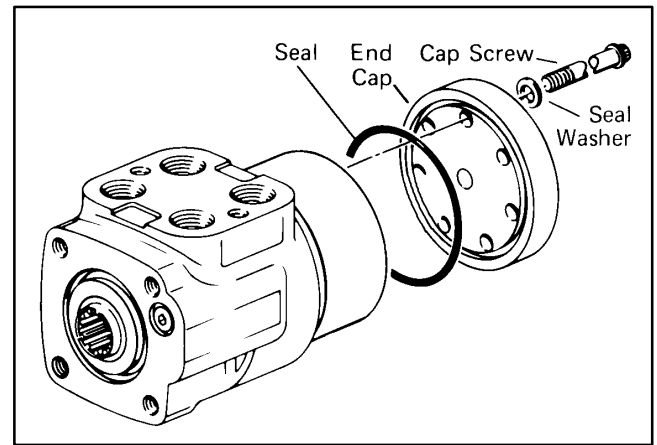

Figure 48
23. Install drive spacer(s), when used, in meter, see Fig. 48.